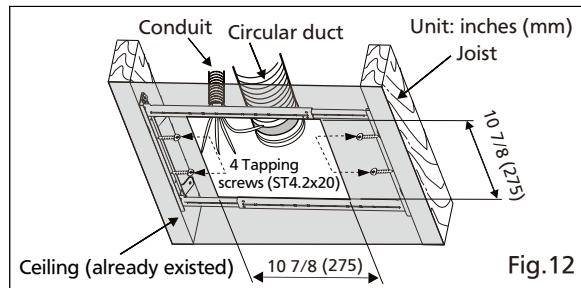

Fig.12
1. Remove the existing fan and cut ceiling opening. Secure the Flex-Z Fast™ bracket to joists by using 4 tapping screws (ST4.2x20) (Please prepare the screws and put on Flex-Z Fast™ bracket before Flex-Z Fast™ bracket is installed on joist). Existing ductwork and wiring left in place. (Fig.12)